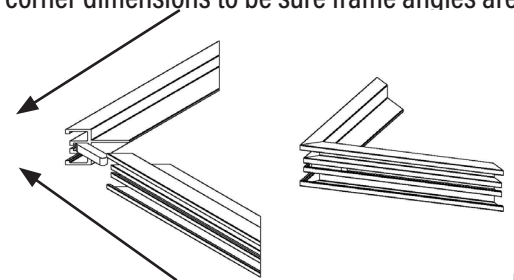

FIG 5
2. After consulting the shop drawings, assemble the frame using the corner keys provided. (FIG 5)